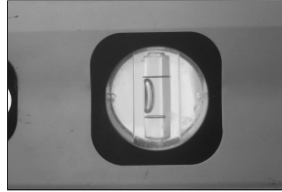

Fig 4
C. Last, using two ST6x16 screws to fix the iron support on the solid wood, see fig 4.